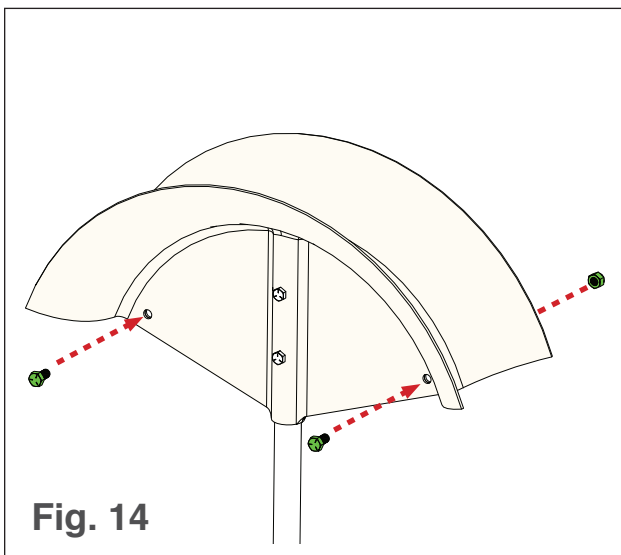

Fig. 14
2. Place the two remaining  $\frac{5}{16}$ "-18 x  $\frac{5}{8}$ " hex head bolts through the two outer holes, and secure with the two remaining nuts (see Fig. 14).